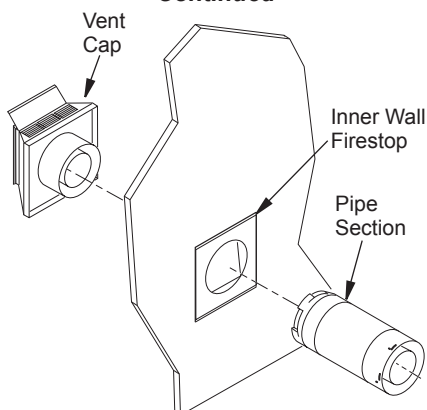
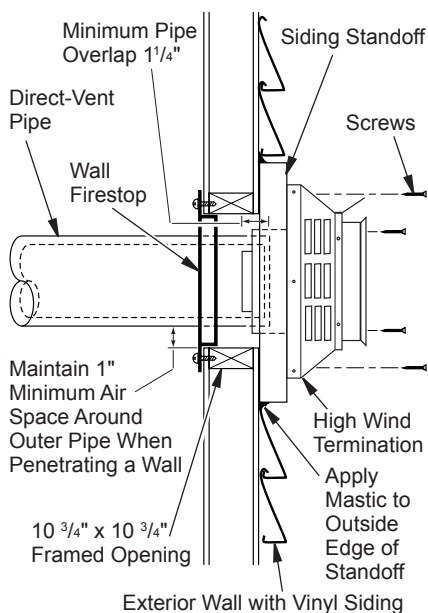

Figure 16 - Installing Inner Wall Firestop
Figure 17 - Typical Horizontal Termination Cap Mounting with Additional Siding Standoff Installed
9. **Combustible Exterior Wall Only:** Slide wall firestop against interior wall surface and attach with screws provided (see Figure 16, page 13). See Figure 17, page 13, for horizontal termination details.